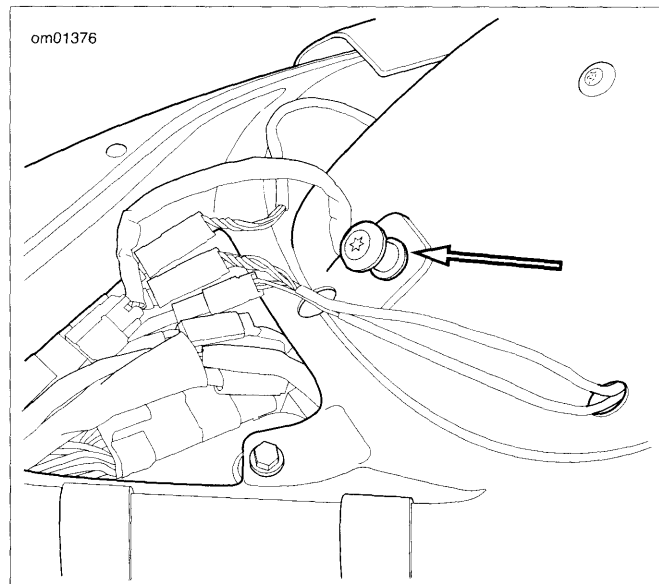

Figure 2-242. Seat Post: XL Models
2. The keyhole (2) locks into the seat post (See Figure 2-242).
3. See Figure 2-242. Push seat forward, engage keyhole onto seat post, then pull seat back slightly.